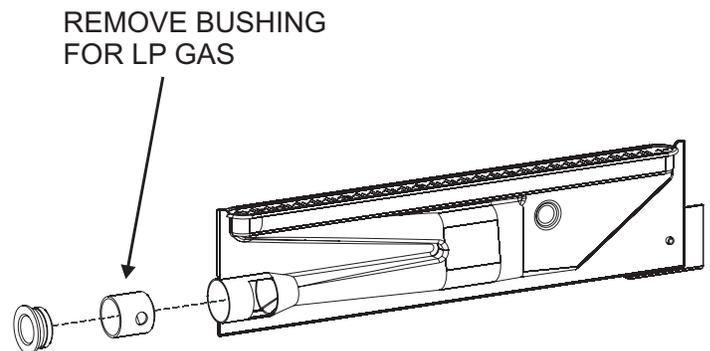

Figure 47
8. Remove front burner (one (1) screw).
10. Remove natural gas front burner bushing from throat (Venturi) of front burner. See Figure 47.
11. Replace front burner with one (1) screw from Step 8.
12. Remove rear burner (one (1) screw).
14. Replace rear burner with one (1) screw from Step 12.
16. Install log plate into fireplace with twelve (12) screws from Step 7.
18. Close front door by securing four (4) door latches.